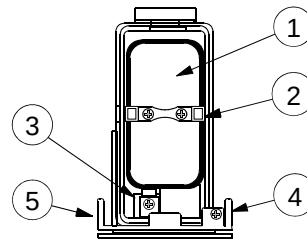
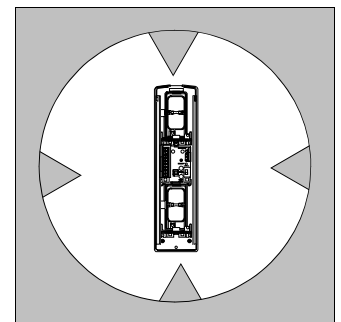

Figure 18: Optical module detail
Figure 19: Scope view
2. Adjust the horizontal angle of the optical module using the turntable (see Figure 18, #5) until the opposite unit (either the transmitter or receiver) appears in the scope view (see Figure 19).
Table 18: Key to Figure 18
3. Use the horizontal and vertical adjustment screws to center the receiver (or transmitter) image in the Scope View (see Figure 19).
- 3. Adjust the optical modules by using a screwdriver to adjust the horizontal (see *Figure 18*, #4) and/or vertical (see *Figure 18*, #3) adjustment screws to obtain the higher voltage reading. In an ideal environment, the voltmeter value reads 3.0 V or higher. (The maximum voltage is 3.75 V.)
- 2. Adjust the optical modules by using a screwdriver to adjust the horizontal (see *Figure 18*, #4) and/or vertical (see *Figure 18*, #3) adjustment screws.